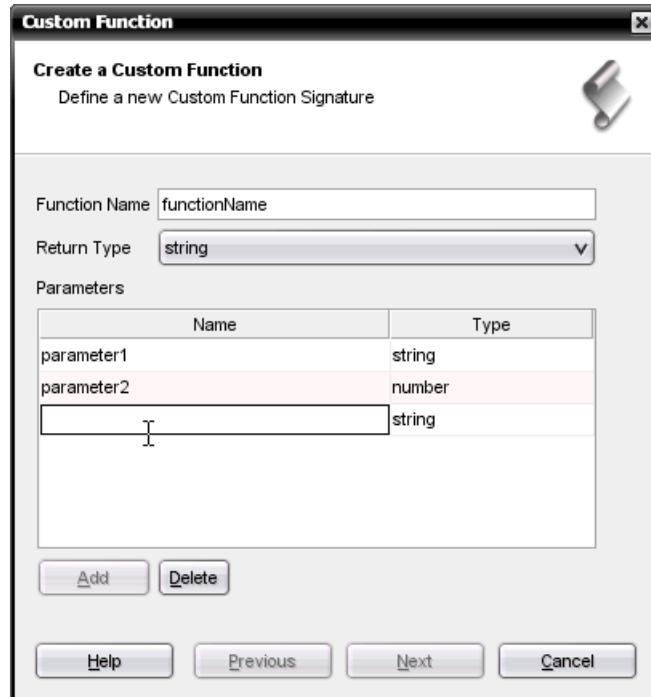

Figure 3-58 Adding input parameters to a custom function
3. Select the parameter type, as shown in Figure 3-58.